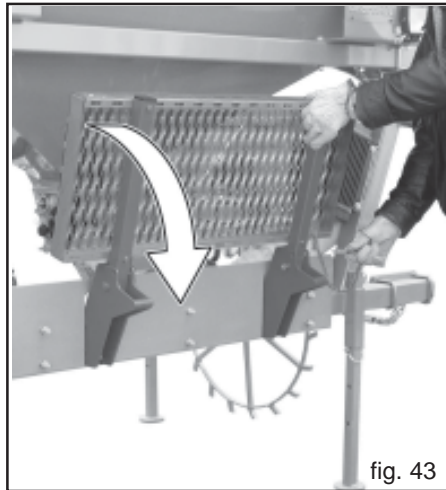

fig. 43
- 1) Rest the machine's support feet on the ground. Remove the fastening pin and pull the inspection platform down (Fig. 43).